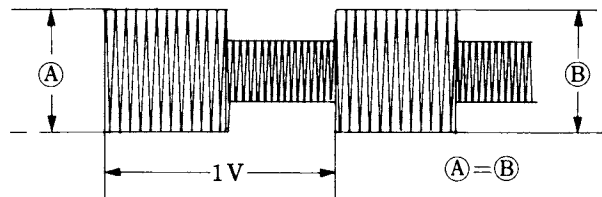

Fig. 77
4. Adjust R538 or R537 so that the waveform amplitude of each vertical period becomes equal as shown in Fig. 77.